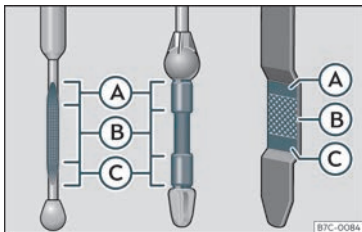

Fig. 215 Engine oil dipstick.
- Then pull it out once more and check the oil level >>> **Fig. 215**. Top up with engine oil if necessary.
- When the oil level reaches at least zone >>> **Fig. 215 (B)**, unscrew the engine oil filler cap carefully >>> **⚠**.
If the oil level is above area»» Fig. 215 , do not start the engine. This could result in damage to the engine and catalytic converter. Contact a specialised workshop.
The oil level must never be above zone »» Fig. 215 . Otherwise oil can be drawn in through the crankcase breather and leak into the atmosphere via the exhaust system.